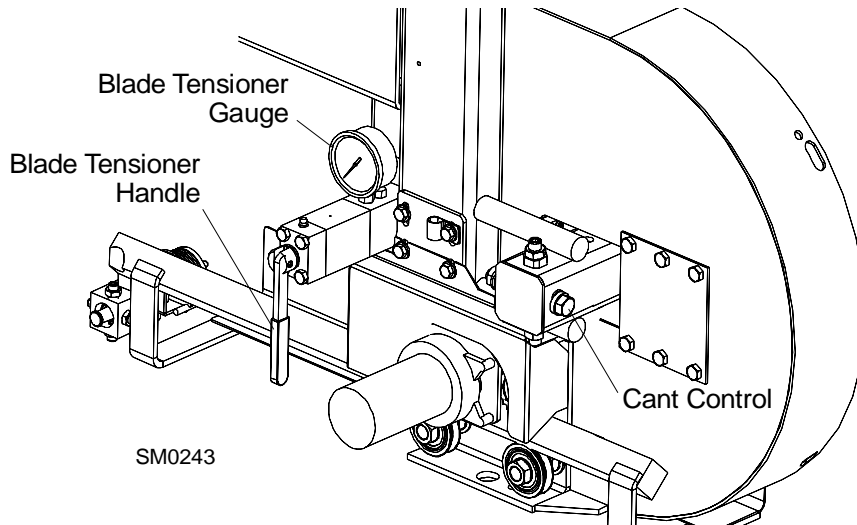

FIG. 3-9
See **Figure 3-9**. Tension the blade by turning the hydraulic tensioning handle clockwise until the tension gauge indicates the recommended tension.
5. To adjust where the blade travels on the blade wheels, use the cant control shown in **Figure 3-9**.